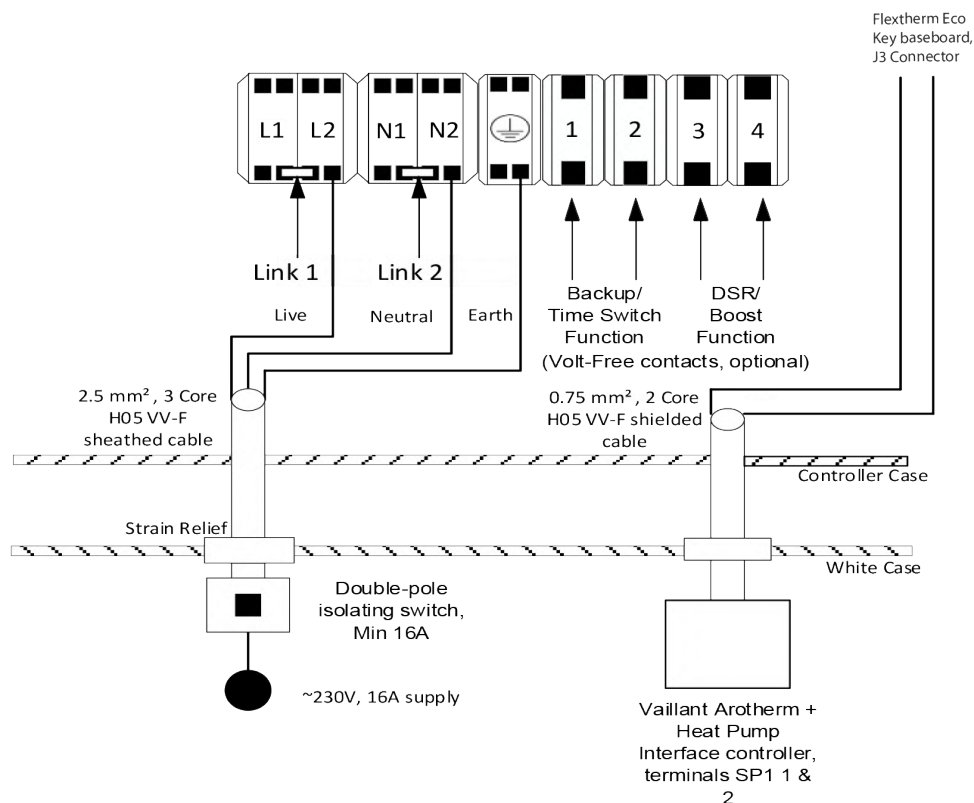

Figure 14: Flextherm Eco G2 D with Vaillant HP-Key
- Flextherm Eco G2 D with the «Vaillant HP-key» & «Vaillant HP+PV-key» (Flextherm Eco G2 D manual - Section 6.4.2 for wiring instructions & Figures 14 & 15 below)
Using a 2-core shielded cable 0.75mm². The cable will act as a hot water heating tank sensor from the Flextherm Eco Board - terminal J3 into the Heat Pump Interface controller PCB Terminal - (SP1 - screw terminals 1 & 2) (please refer to HP installation manual). Please run the wire into the Heat Battery appliance via the appliance case cabling grommets and then into the control box housing through the hole available. Secure the cables in the terminal J3 on the Flextherm Eco Board; please see Figures 14 & 15 below for reference.